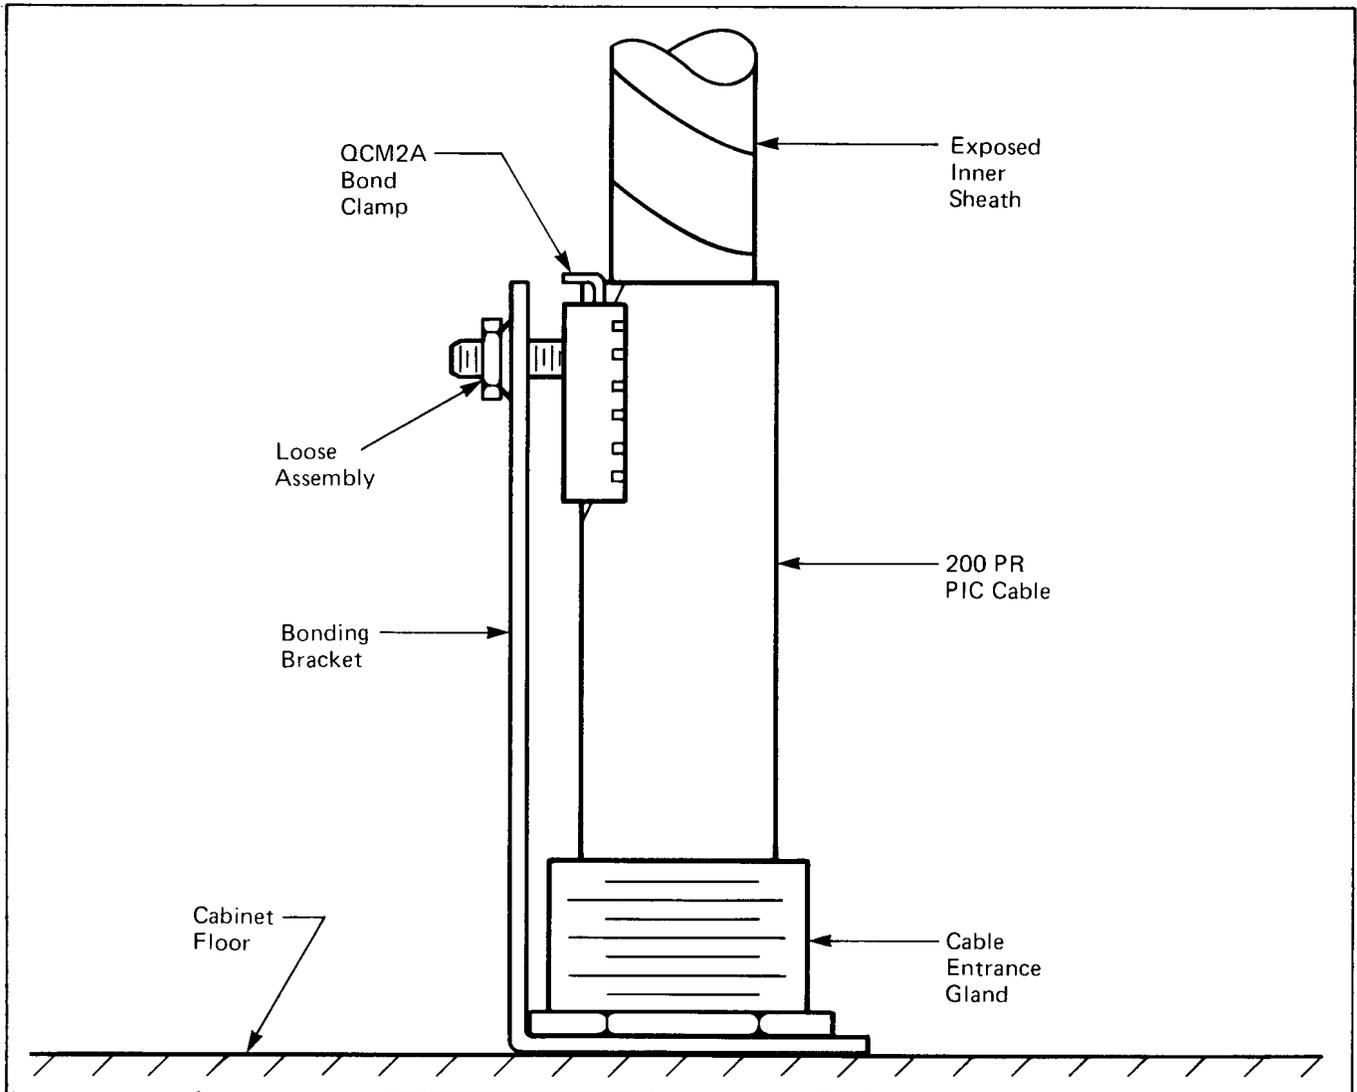

Fig. 15 – Bonding Bracket and Cable Sheath
2.17 The entrance gland of the telephone cable is weathertight and incorporates strain relief for the cable. It is situated in the floor of the cabinet just behind the hinged swing panel, near the hinge point. A bonding bracket is provided here for attachment of the QCM2A bonding clamp and cable sheath (Fig. 15).